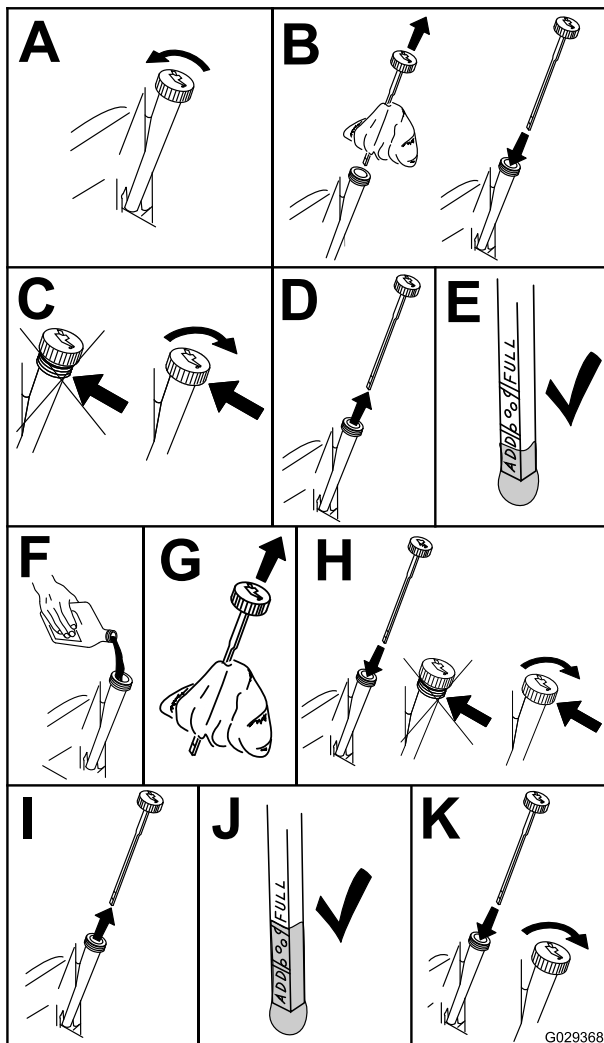

Figure 35
- To keep dirt, grass clippings, etc., out of the engine, clean the area around the oil-fill cap and dipstick before removing it (Figure 35).